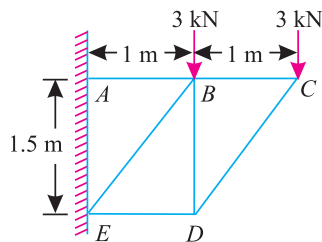

Fig. 13.40.
4. A cantilever truss is subjected to two point loads of 3 kN each at  $B$  and  $C$  as shown in Fig. 13.40. Find by any method the forces in the members  $AB$ ,  $BE$  and  $ED$  of the truss.